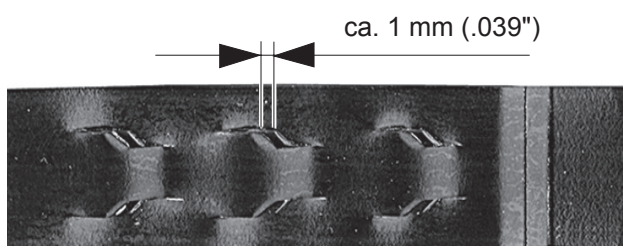

Fig. 7
- **Check the seal (see fig. 7).**
– **Check the seal (see fig.7).**